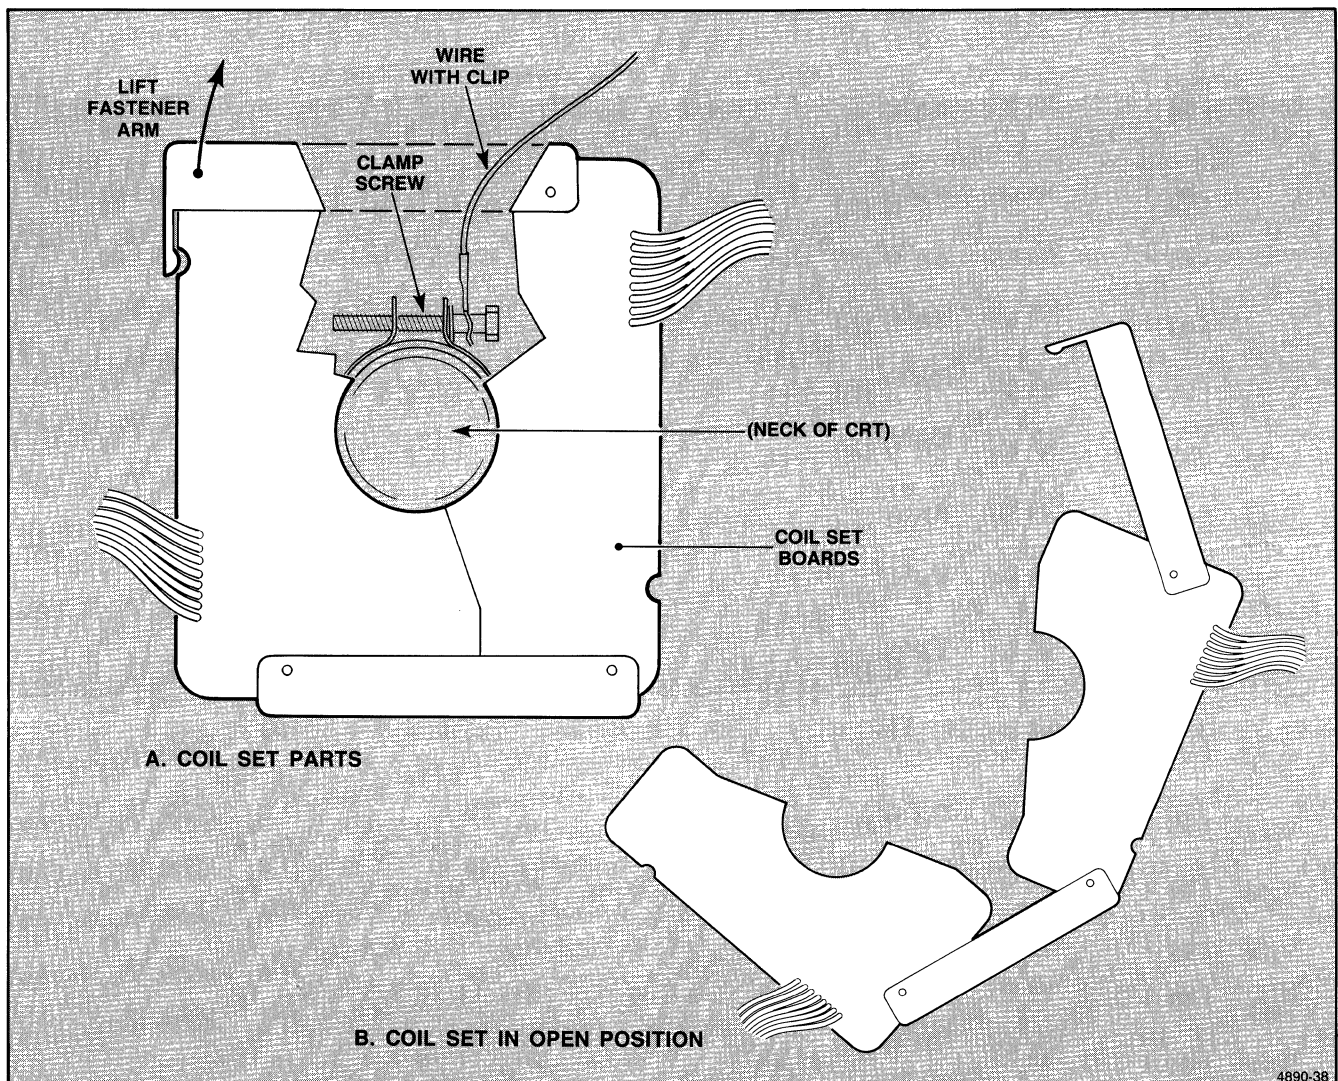

Figure 6-19. Removing the Convergence Coil Assembly.
3. Swing up the fastener-arm that hooks the two halves of the Coil board together (see Figure 6-19). Then let the halves open out away from the crt (the lower part of the assembly contains a hinge point).
4. Unplug the ground clip from the yoke-fastening screw; the screw is in front of the coil assembly (see Figure 6-19 again).